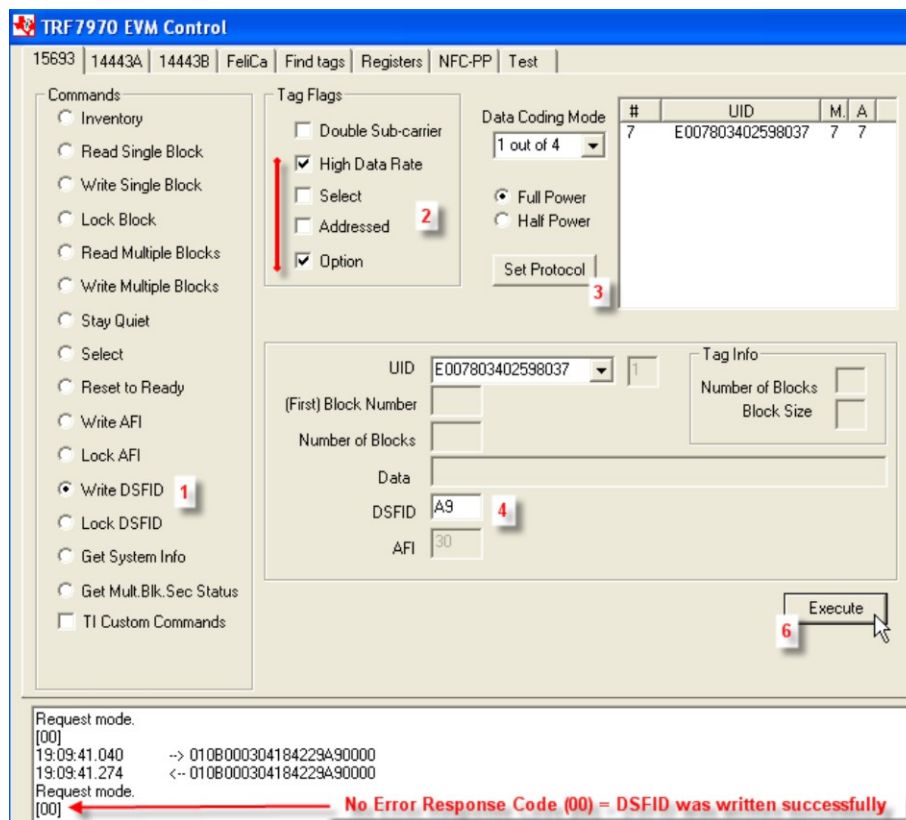

Figure 16. Write DSFID Command Example
2. Select Tag Flags accordingly (see Figure 16 for one example, note use of option flag).